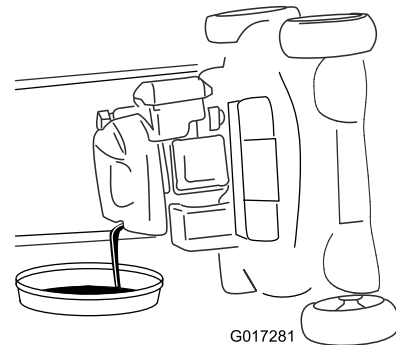

Figure 33
6. Remove the dipstick and drain the used oil into the oil-drain pan (Figure 33).